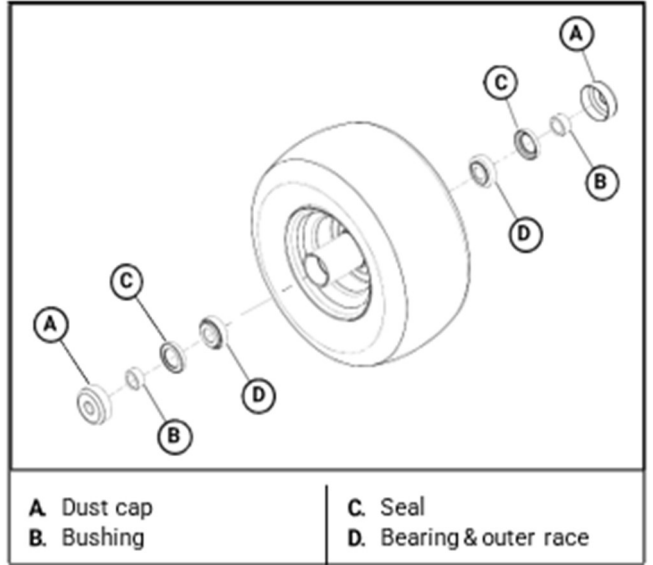

Figure 40
5. Insert the bushings through the seal openings and push them in until they contact the tapered roller bearings. [Figure 40]
6. Push the dust caps onto the wheel housing. [Figure 40]